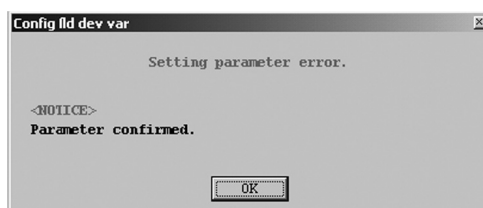

Fig.101
- ① With all menu items selected and "OK" button clicked, when an error is found in any of these settings, a warning error box appears as shown in Fig. 101. Click on "OK" and correct the wrong entry.